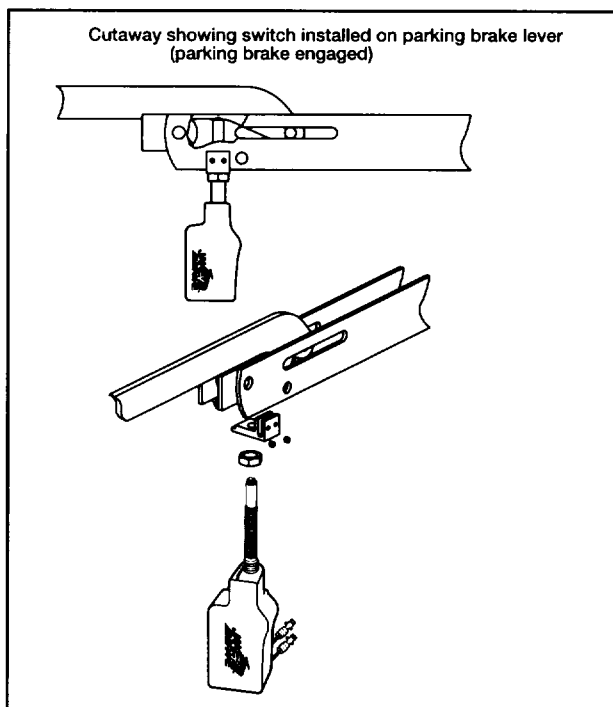

Figure 5
1. Thread the Hydraulic Brake Safety Switch (P/N 024153) in the Hydraulic Brake Switch Bracket (P/N 024140) as shown in Figure 5, using Hex Jam Nut (P/N 001026). Do not tighten at this time.
2. Attach the Switch and Bracket assembly to the parking brake lever. The bracket slides over the parking brake lever and is secured by tightening the two set screws on the bracket (see Figure 5).